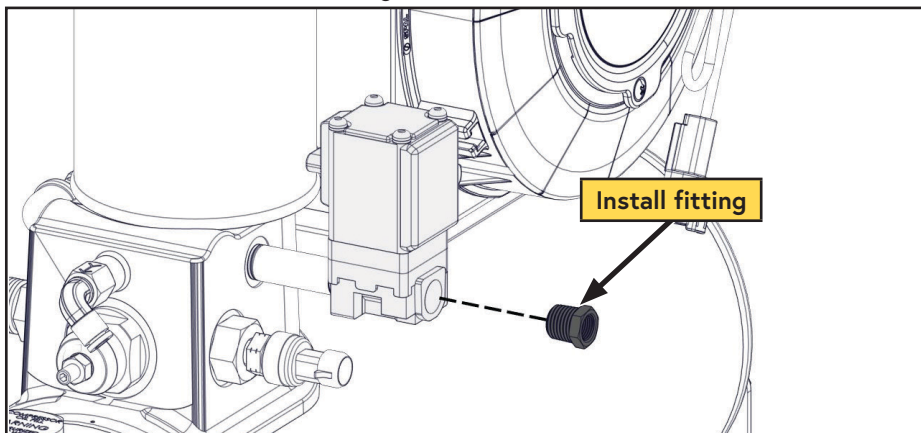

Figure 34 — Install fitting
- Apply Loctite 567 (thread sealing) compound to the supplied fitting and install it into the blowdown solenoid (Figure 34).